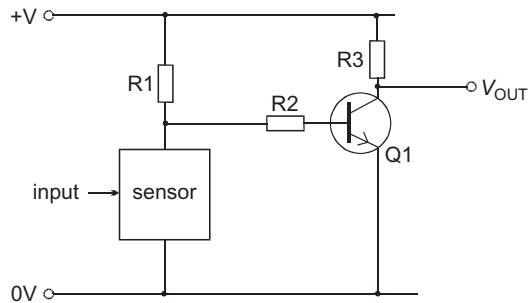

FIGURE 38.18
- 7 In the circuit Figure 38.18, the sensor is a thermistor. When a current of hot air is blown at the sensor, the voltage  $V_{OUT}$ :